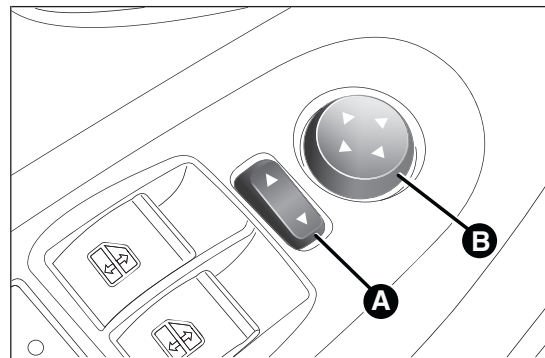

fig. 27
- use switch A fig. 27 to select the mirror (left or right) to be adjusted;